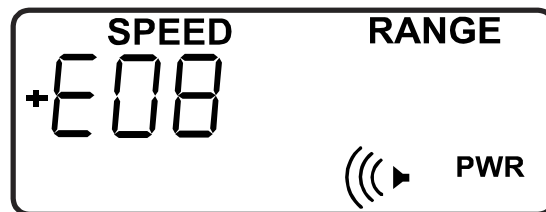

Figure 27
**EXX:** (Where XX is an error number) This message indicates that an error has occurred (Figure 27). Below are the definitions for error messages that can appear on the **XLR's** display.